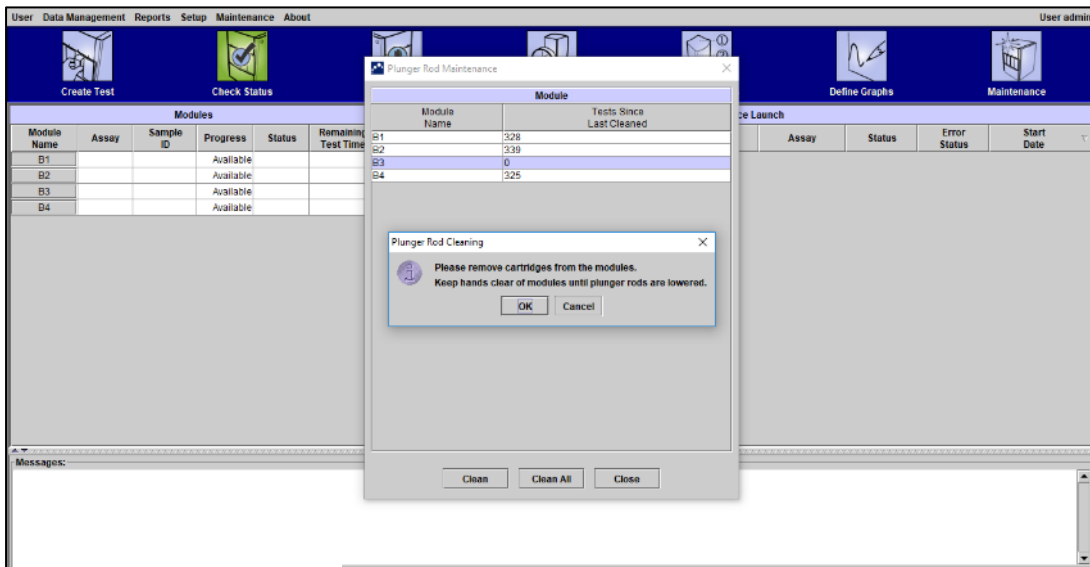

Figure 13. Plunger Rod Cleaning prompt
- D. In the *Plunger Rod Maintenance* prompt, select *Clean All* (Figure 13.).